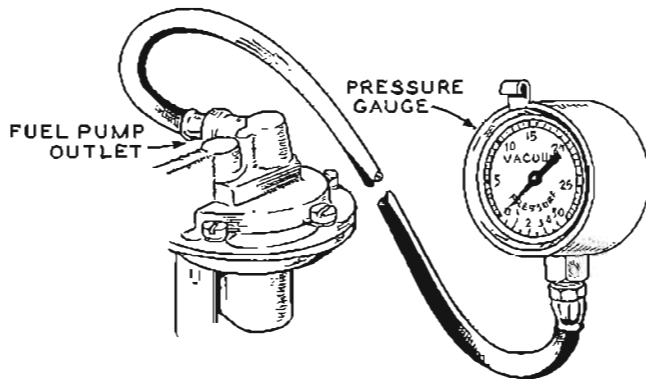

Figure A-6. Measuring Fuel Pump Pressure.
(1) Testing. If the fuel pump delivers fuel, test it with a pressure gauge or manometer. Perform these tests before removing the pump from the engine. Disconnect the pump outlet line and install a pressure gauge (fig. A-6).